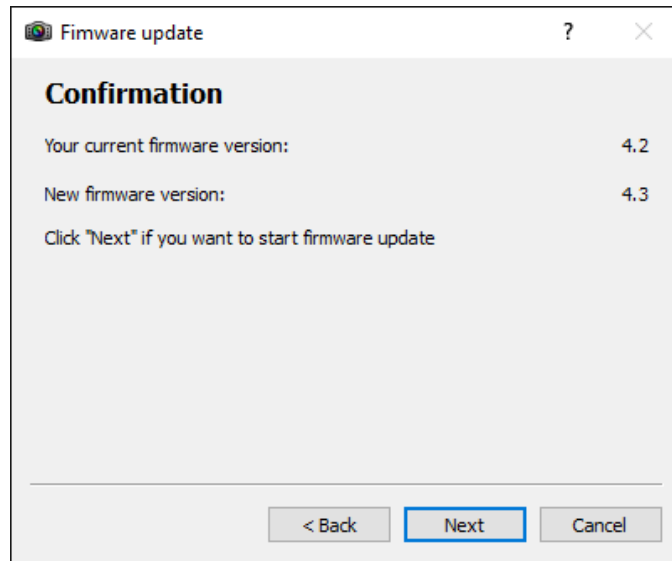

Figure 20 : Firmware Update Confirmation window
3. The next window will display both, current and new firmware, as shown in the Figure 20. By clicking the "Next >" button, the conformation is made and the firmware update will start immediately.